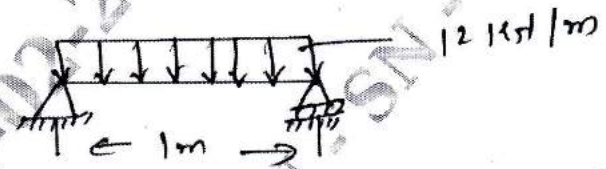

Fig. Q8 (b) (10 Marks)
b. Fig. Q8 (b) shows a simply supported beam subjected to a uniformly distributed load. Obtain the maximum deflection. Take Young's modulus $E = 200 \text{ GPa}$ and moment of inertia $I = 2 \times 10^6 \text{ mm}^4$.